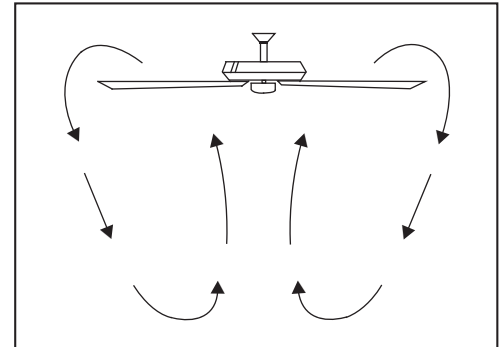

Figure 26
**Cool weather** - (Clockwise direction) An upward airflow moves warm air off the ceiling area. (Fig. 26) This allows you to set your heating unit on a lower setting without affecting your comfort.